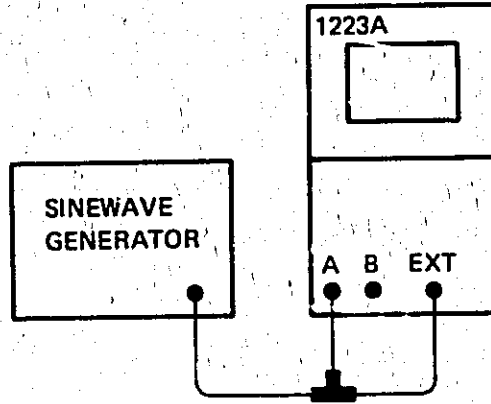

Figure 4-6. Trigger Modes Test Setup.
1. Connect the Sinewave Generator to the 1223A as shown in Figure 4-6, and set the 1223A controls as follows: